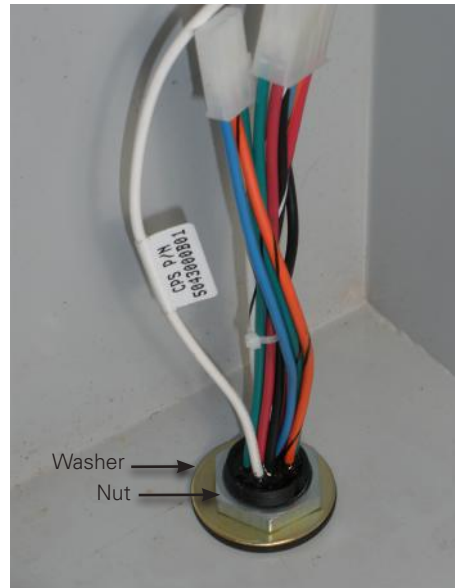

Figure 34. Securing the pigtail with a nut and washer.
- Place flat washer (Item 3) and nut (Item 5) over the pigtail wires and finger-tighten the nut as shown in Figure 34.